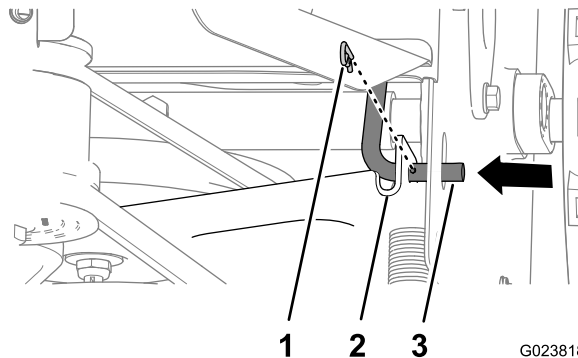

Figure 41
- Remove the hairpin from the traction-control rod (Figure 41).
- Remove traction-control rod from the traction-control bracket by moving the rod inward (Figure 41).
- Move the traction-control bracket rearward and align the hole in the bracket with the traction-control rod (Figure 41).
- Slip the rod through the bracket and secure the rod with the hairpin (Figure 41).